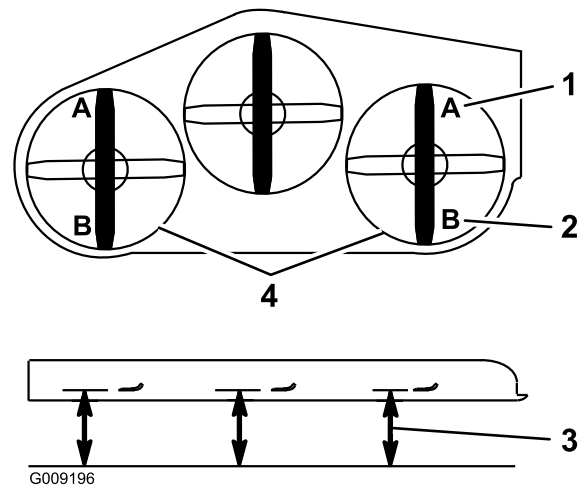

Figure 89
- 9. On both sides of the deck, measure from the level surface to the front tip of the blade (Position A) as shown in Figure 89.
16. On both sides of the deck, measure from the level surface to the back tip of the blade (position B) as shown in Figure 89.